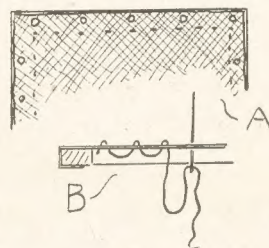

Fig. 4—Stitching the work
With the covering stretched over as tight as possible, turn the frame over for receiving the tapestry. This should be pressed flat, and laid over the frame, then it is gently stretched and held down with drawing pins all round, as at (A) in Fig. 4. Be careful in both stretching and pinning down, especially if the tapestry is very old. Avoid any distortion of the design by correcting the extent of tautness as the work